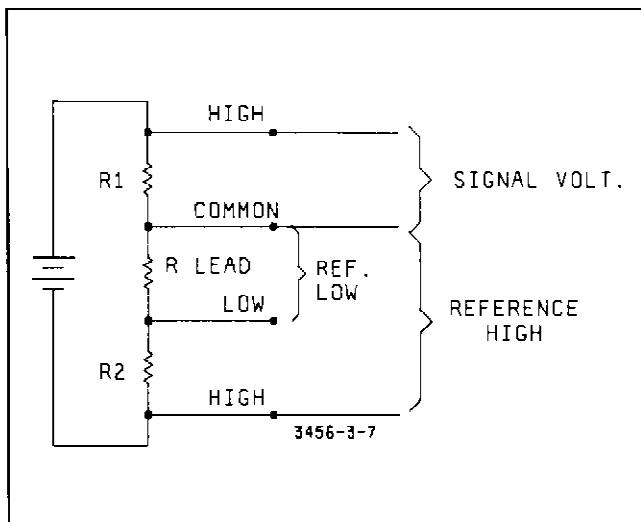

Figure 3-7. Typical Ratio Measurement.
c. Typical Ratio Measurement. Matching resistor values for an accurate voltage divider is one way to use the 3456A's Ratio feature. Try this by using the set up in Figure 3-7. Connect the instrument as indicated in the figure. Make sure that REFERENCE LOW is connected at the top of R2 and that Signal (Volts) Common is connected at the bottom of R1. Once the instrument is connected and placed in the DCV/DCV Ratio mode, a Ratio Measurement is made. The voltage drop across R1 and R2 is measured including any offset voltages between Signal Common and Reference Low. The offset voltage is used to compensate for any error causing voltages between the input and resistors. Once all the measurements are taken, the Ratio Measurement is displayed on the front panel. If the resistors are equal in value, the reading should be approximately "–1.00000".